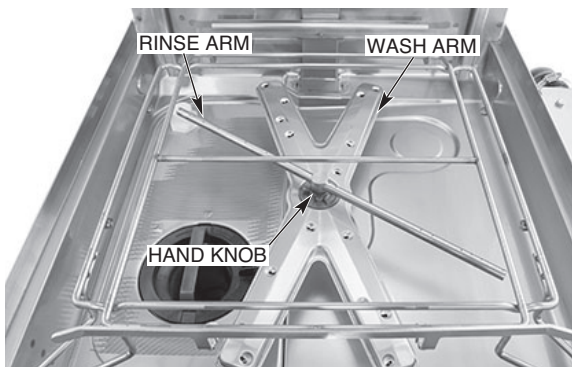

Fig. 24
7. Ensure upper and lower wash and rinse arms (Figs. 24, 25) rotate freely and are free of any obstructions. If not, remove arms and clear out any obstructions. Refer to Maintenance, page 35.